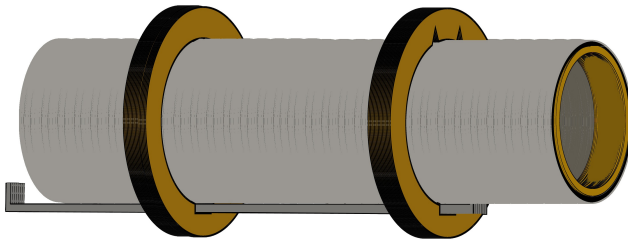

Figure 2
- **Step 2** Assemble the EM-710 following the Semroc assembly sheet but without glue, using the “V”-notched ring as the forward ring. The flat notches should align over the motor hook. See Fig. 2.